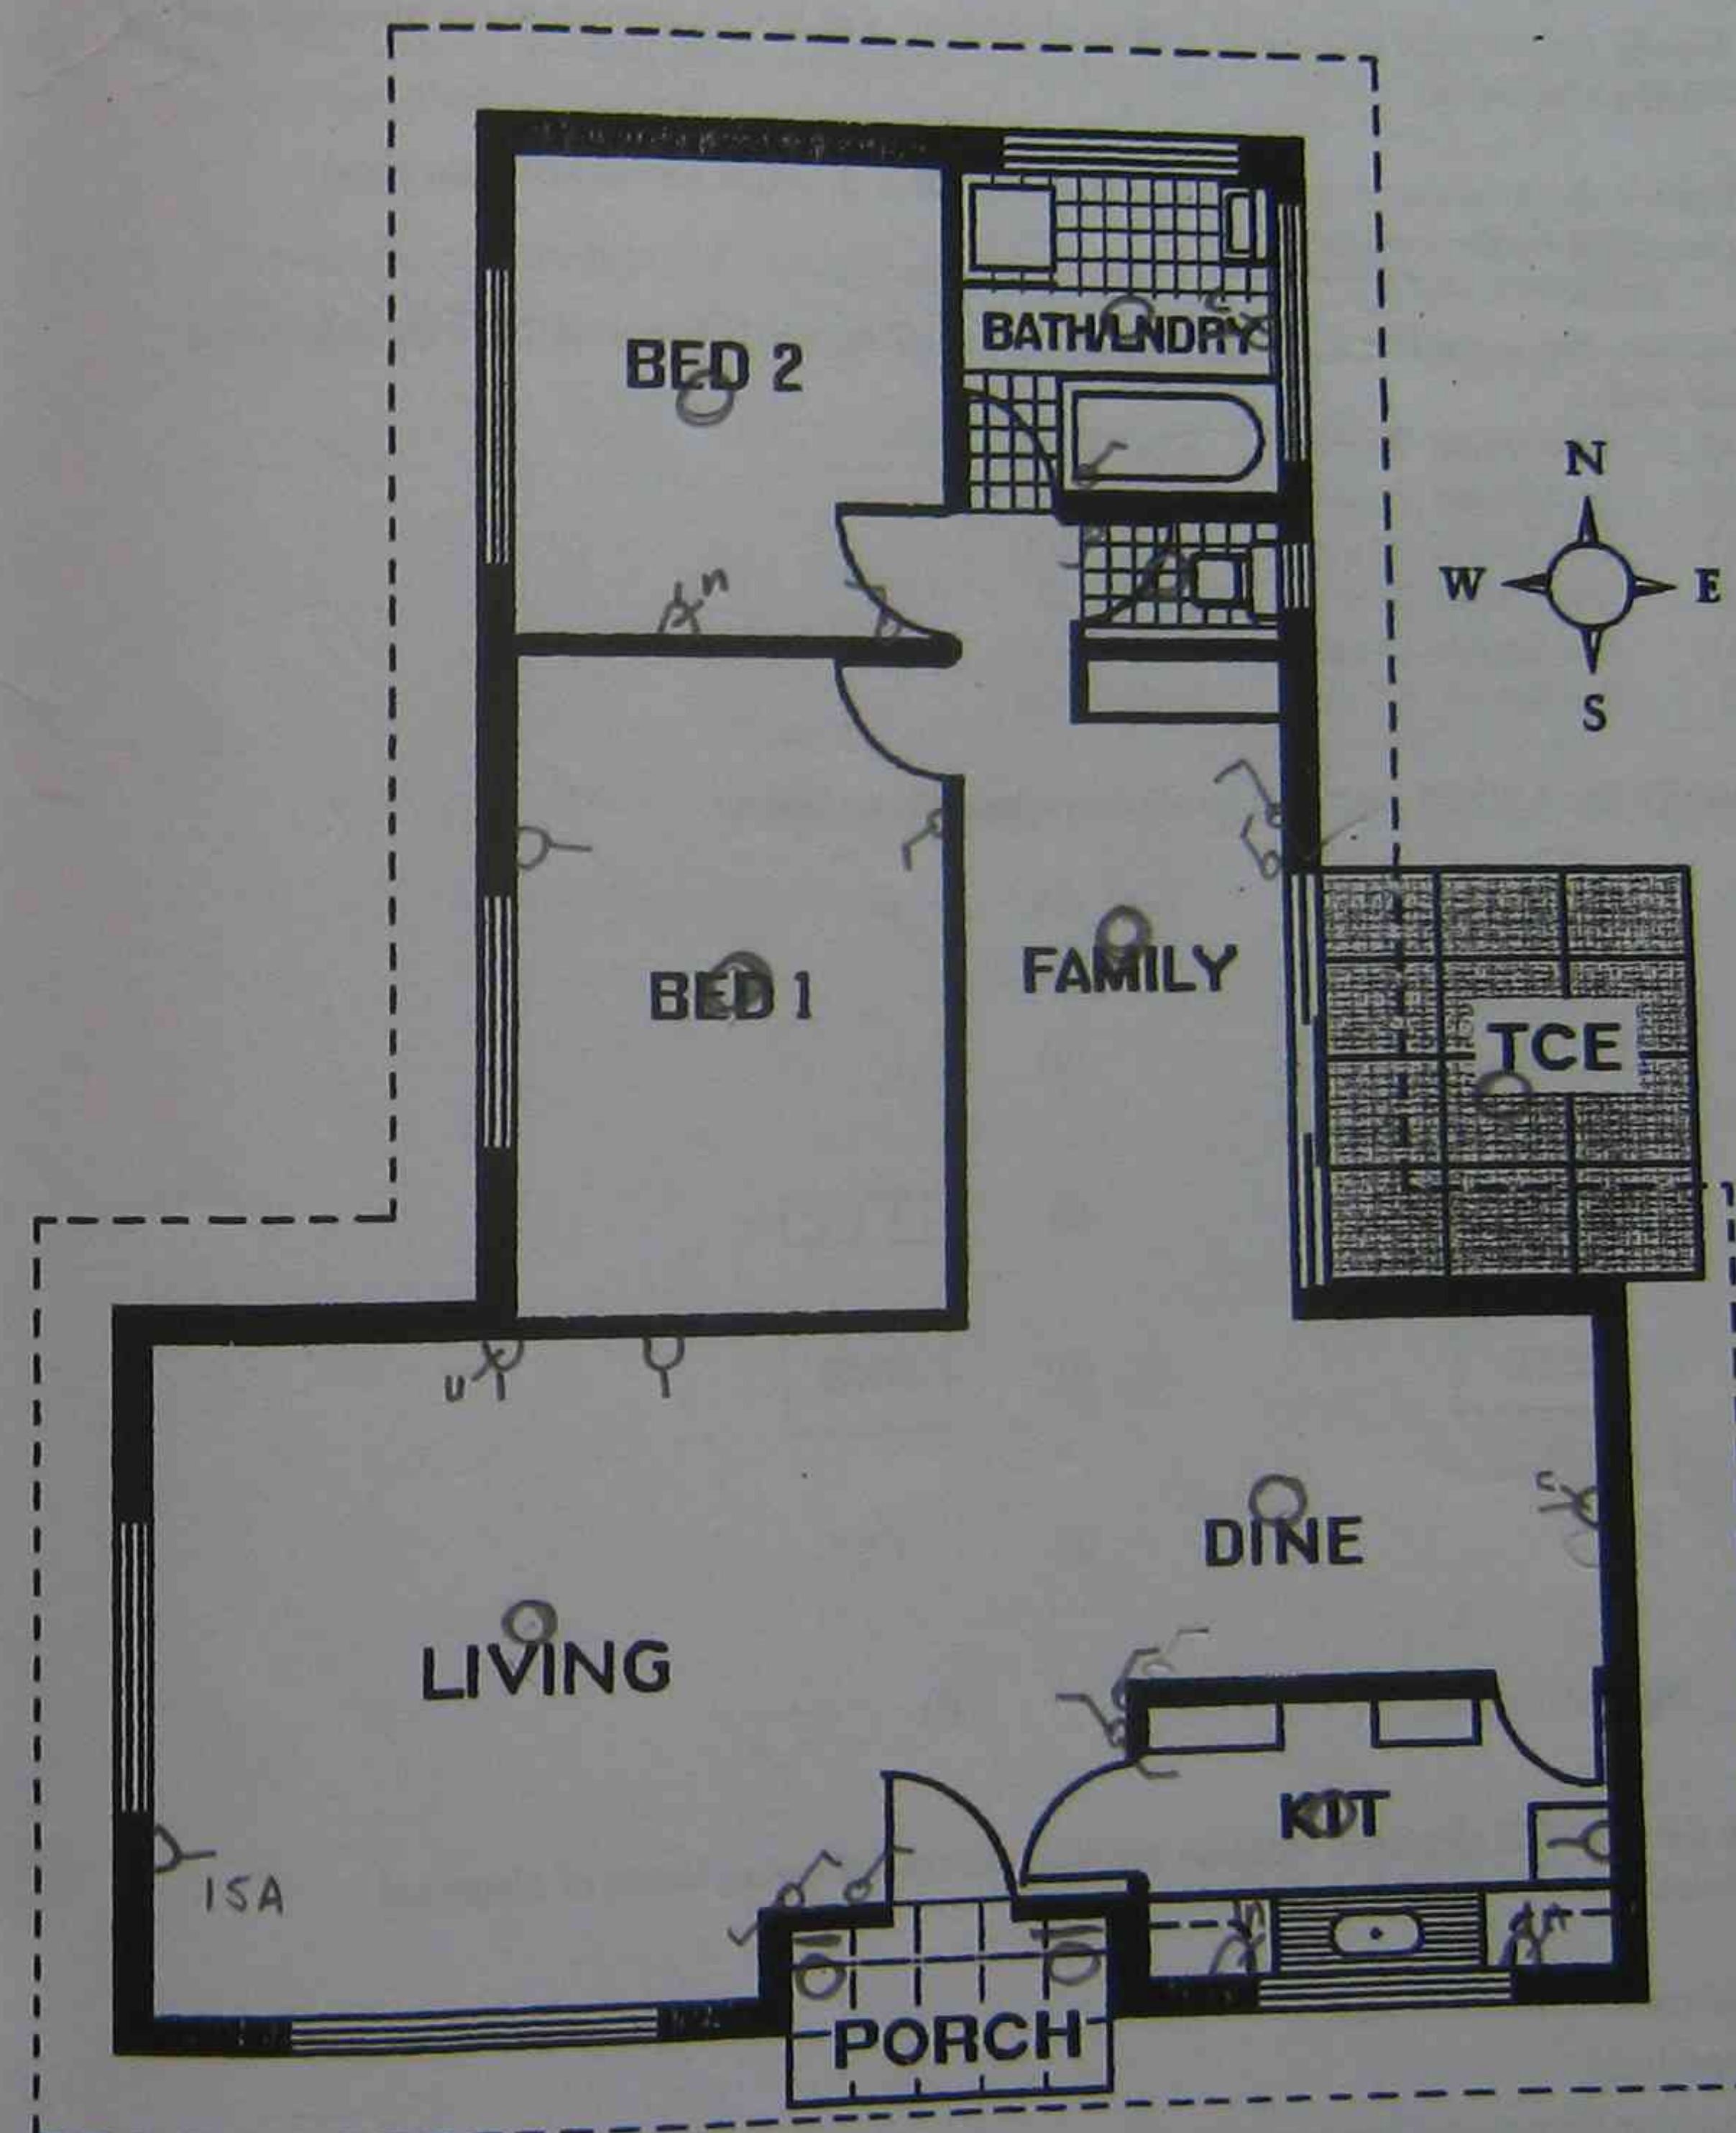

Figure 9 Floor plan
On the floor plan of Figure 9 draw the location of all lighting points and switching positions as detailed in the electrical schedule shown below. The following points will help you:
- the floor plan shown in Figure 9 is drawn to a scale of 1:100
On the floor plan in Figure 9 draw the locations of all socket outlets as detailed in the electrical schedule shown below. Note the following points;